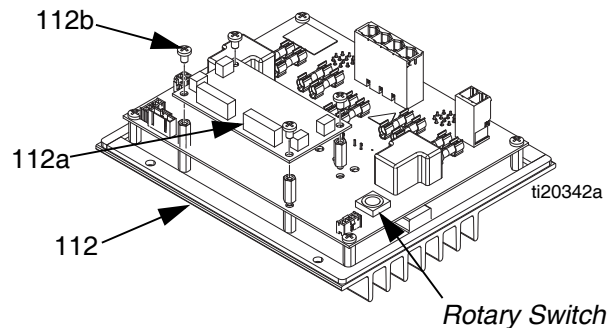

FIG. 46
1. Set MZLP rotary switch to “1” on MZLP with daughter card. Set MZLP rotary switch to “2” or “3” on MZLP without daughter card, based on location. See FIG. 46 for rotary switch location.